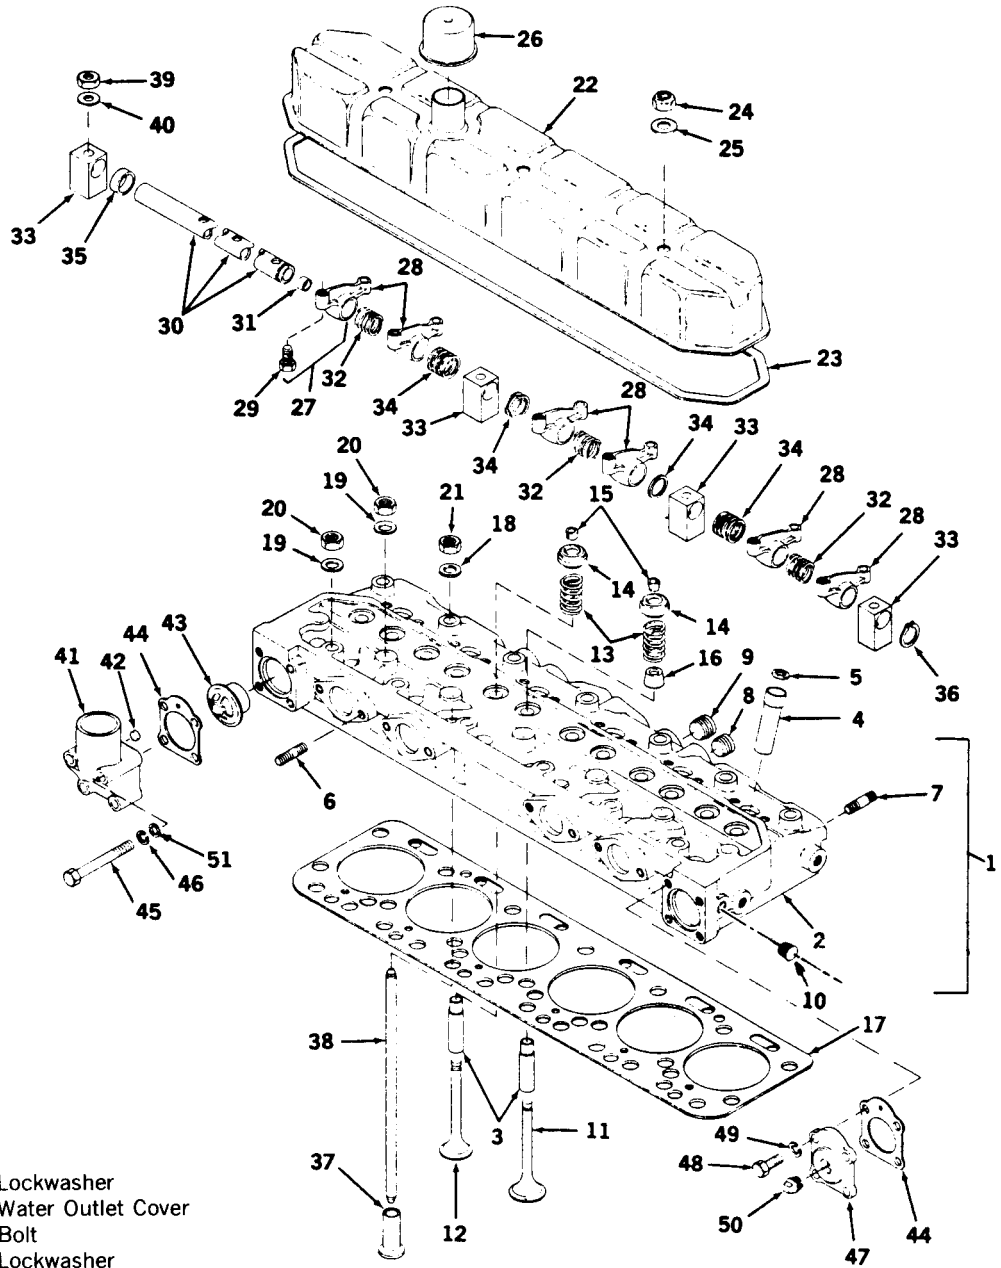
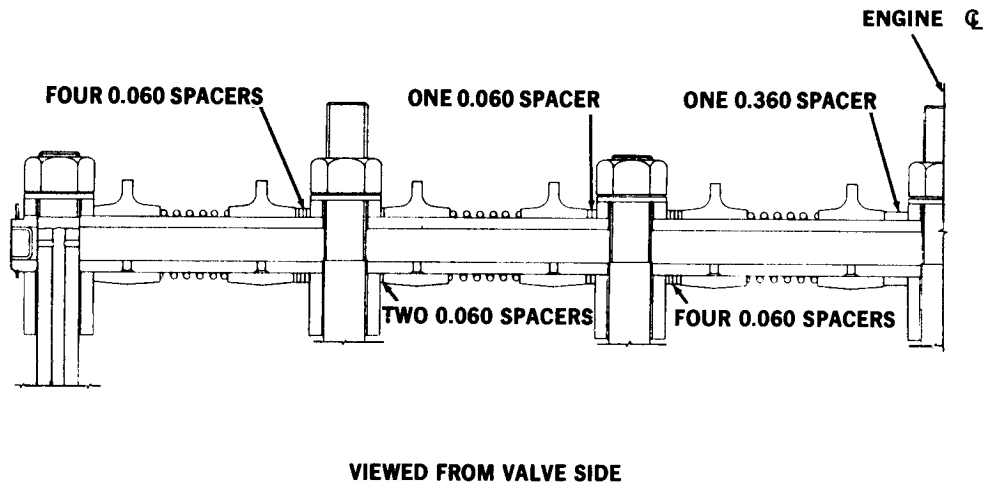

Figure 3-15. Rocker Arm, Cylinder Head, and Valve Assemblies
Figure 3-16. Rocker Arm Shaft Showing Spacer Position
c. Remove the thermostat housing (41, figure 3-15) and gasket (44) from cylinder head by removing four bolts (45) lockwashers (46) and plain washers (51).
d. Remove thermostat (43).
a. Discard gasket (44, figure 3-15).
a. Install thermostat (43, figure 3-15) in cylinder head so that cone-shaped end points out.
b. Install thermostat housing (41) and gasket (44) on cylinder head; secure with four bolts (45) lockwashers (46) and plain washers (51).
a. Remove cylinder head cover (22, figure 3-15) and gasket (23) by removing nuts (24) and washers (25).
b. Remove nuts (39) and washers (40).
c. Check rocker arms (28, figure 3-15) for cracks and surface imperfections by magnetic inspection,
d. Check springs' (32) for damaged ends and misaligned coils. A 10-pound load on spring should compress it to 1 inch. Replace a damaged or weak spring.
e. Check ball end of rocker arm adjusting screw (29) and rocker arm (28). Replace screw if flat on bottom or if there is evidence of scratching or wearing. If rocker arm contact surfaces are worn or damaged, replace with new rocker arm.
g. Check rocker arms (28) for worn shaft bore diameter. Maximum allowable diameter is 0.8665 inch. Discard worn rocker arms if damaged or worn beyond this limit.
h. Check rocker arm shaft (30) for wear or scoring, if shaft has shoulders or ridges due to rocker arm action on shaft, replace with new shaft. Rocker arm shaft diameter should not be worn to less than 0.8560 inch.
i. Inspect cylinder head cover (22) for cracks, dents, and distorted sealing area. Discard and replace if damaged. Make sure breather screen" is clean and in good condition and that breather cap (26) fits securely on cylinder head cover.
a. Coat rocker arm shaft (30, figure 3-15) lightly with clean lubricating oil. Slide shaft supports (33), rocker arms (28), spacing springs (32), and spacers (34 and 35) onto rocker arm shaft. Install spacers (34) on shaft as indicated in figure 3-16.
b. Install retaining rings (36, figure 3-15) on each end of shaft (30).
d. Install rocker arm assembly over cylinder head stud extensions and seat it firmly on cylinder head. Make certain rocker arm adjusting screws (29), are positioned over pushrods (38). Secure rocker arm assembly to cylinder head with nuts (39) and washers (40).
g. Install cylinder head cover (22) and new gasket (23) and secure to cylinder head with nuts (24) and washers (25).
h. Install breather cap (26).
f. Lift out pushrods (38, figure 3-15).
g. Remove cylinder head nuts (20 and 21) and washers (18 and 19). Lift cylinder head (2) and gasket (17) from engine. It maybe necessary to tap head lightly with a soft mallet to loosen it. Do not pry on contact surfaces.
h. Remove water outlet cover (47) and gasket (44) by removing four bolts (48) and lockwashers (49).
j. Do not remove plugs (8, 9, and 10), studs (6 and 7), or fuel nozzle holder sleeves (4) unless they are damaged and require replacement.
a. Inspect cylinder head gasket (17, figure 3-15) and cylinder head (2) for indications of gasket failure and leaking. If cylinder head gasket failure is apparent, make a thorough check of contributing factors.
b. Make sure Cylinder block contact surface is clean of carbon deposits. Install a new cylinder head gasket (17, figure 3-15) on cylinder head (2). Gasket must be assembled with bead (rolled edge around combustion chamber) down. For sealing, use cylinder head gasket cement.
b. With a clamp-type valve spring compressor, compress valve springs (13, figure 3-15) and remove valve spring seat locks (15).
c. Remove valve springs (13) and seats (14). Lift out valves (11 and 12). Place valves in order in a rack, with holes numbered for both intake and exhaust valves so that valves can be installed in their respective places at assembly.
d. Remove intake valve stem seals (16).